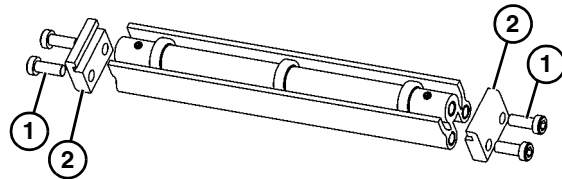

Figure 17
1. Locate return rollers. Exploded view shown in Figure 17.
2. Remove screws (**Figure 17, item 1**) and clips (**Figure 17, item 2**) from roller assembly.